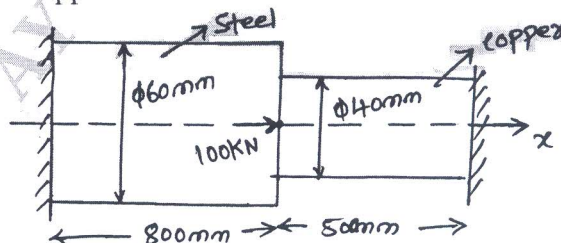

Fig Q5(a)
- 5 a. Determine the nodal displacement, stress in each elements and support reaction in the bar shown in Fig Q5(a) due to applied force $P = 100\text{kN}$. Take $E_{\text{steel}} = 200\text{GPa}$, $E_{\text{cu}} = 100\text{GPa}$.